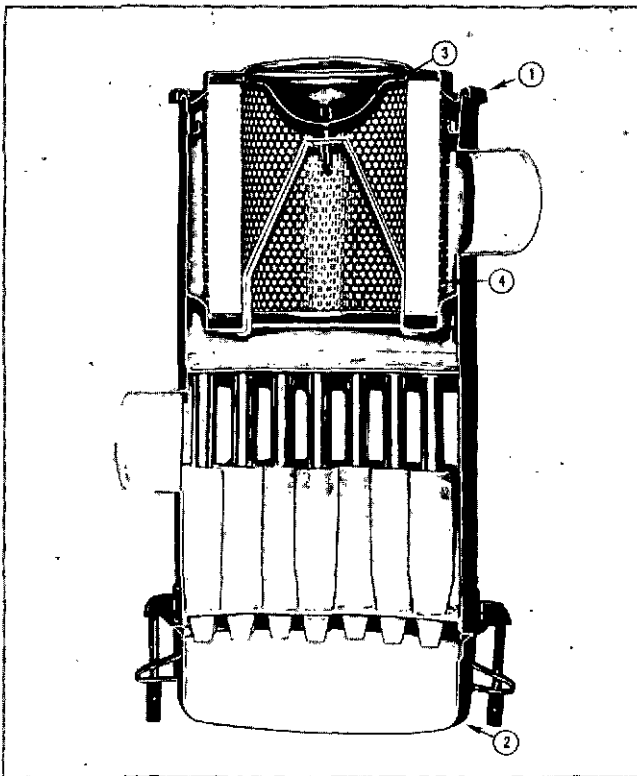
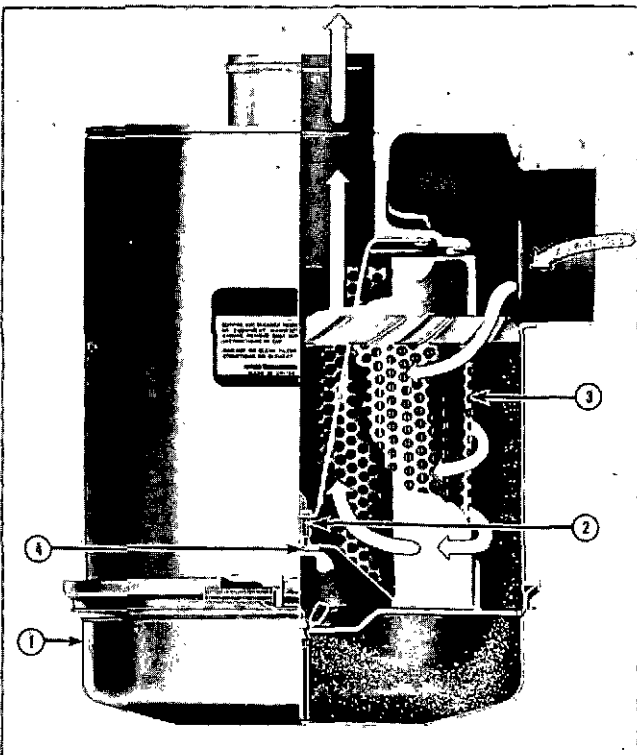

Fig. 10-1-4, N11004. Composite dry type air cleaner
Fig. 10-1-5, N11005. Cyclonic dry type air cleaner
1. On composite type, loosen clamps and remove top cover (1, Fig. 10-1-4).
2. Remove dust cup (2, Fig. 10-1-4) (1, Fig. 10-1-5) from bottom of cleaner.
3. Unscrew wing bolt (3, Fig. 10-1-4) (2, Fig. 10-1-5) holding element in position; on composite type remove element carefully so loose dirt does not fall back into chamber.
2. Inspect element (4, Fig. 10-1-4) (3, Fig. 10-1-5) after cleaning to be sure there are no holes in filter paper.
1. Install element (4, Fig. 10-1-4) (3, Fig. 10-1-5) into position.
2. Be sure gasket washer (4, Fig. 10-1-5) is in place under wing bolt (3, Fig. 10-1-4) (2, Fig. 10-1-5) before tightening.
3. Install cover (1, Fig. 10-1-4).
4. Install dust cap (2, Fig. 10-1-4) (1, Fig. 10-1-5).